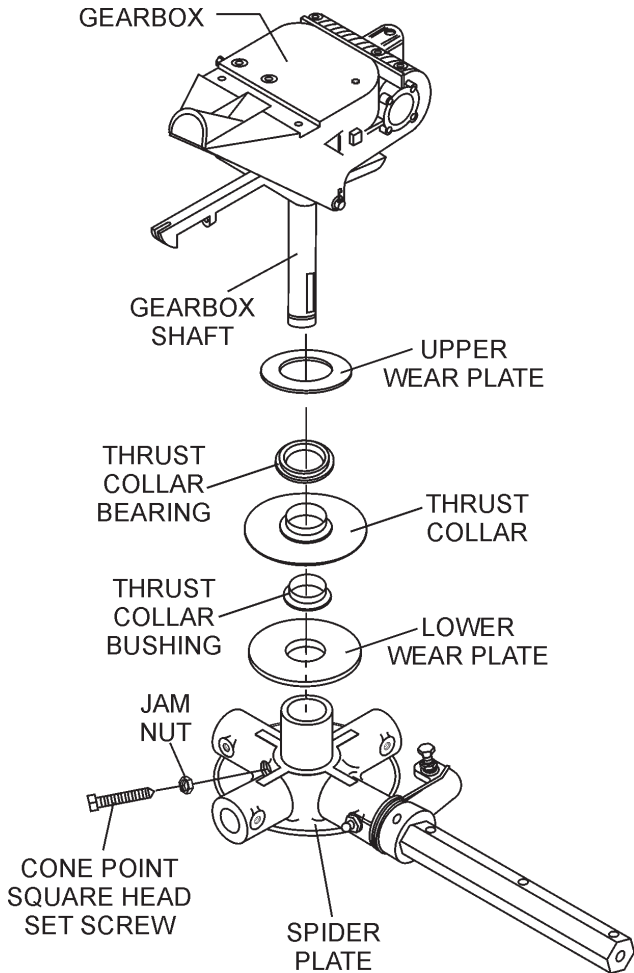

Figure 41. Spider/Gearbox Removal
a. Locate the cone point square head set screw (Figure 41) and attached jam nut found on the side of the spider assembly.